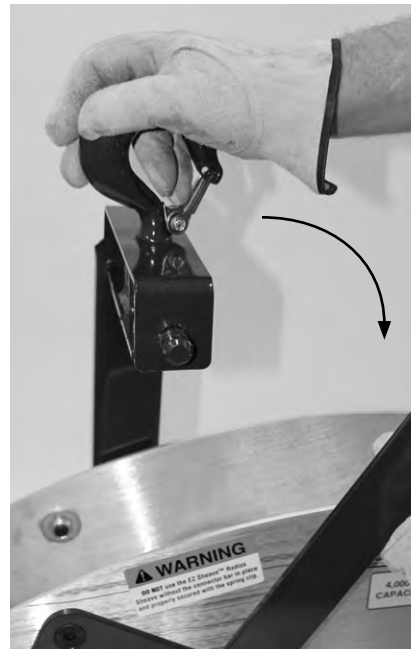

Figure 4b
2. Pull the connector bars out far enough to clear the top tab and lower connector bar out of the way (See Figure 4b).